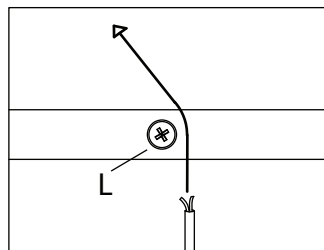

Fig. 3
5. Feed the inner cords (K) over the inner spacers (L) (Fig. 3) and feed them through the bushings (H) in the canopy (J). Adjust the cords (F&K) to the desired length.